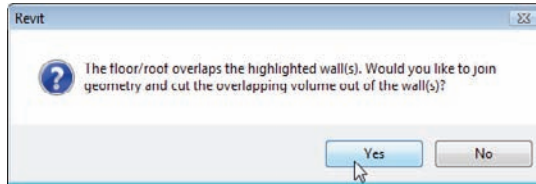

FIGURE 6.28 Click Yes if you want to cut overlapping volumes out of the exterior walls.
- The next message pertains to the exterior walls. Revit asks whether you would like to cut the section out of the walls where the slab is intersecting. In this case, you do, so click Yes in the message box, as shown in Figure 6.28.